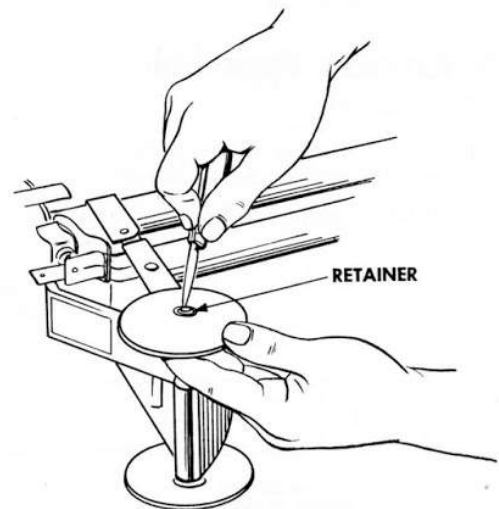

Fig. 7
- a. Cut plastic Retainer with knife and remove. *See Fig. 7.*